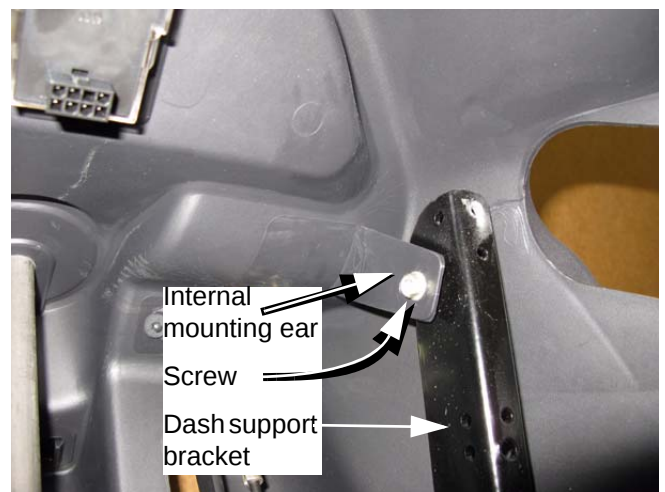

Figure 4.46
11. Remove the screws that hold the inside mounting ears of the dash panel to the dash support brackets using a 3/8" wrench. See Figure 4.46.